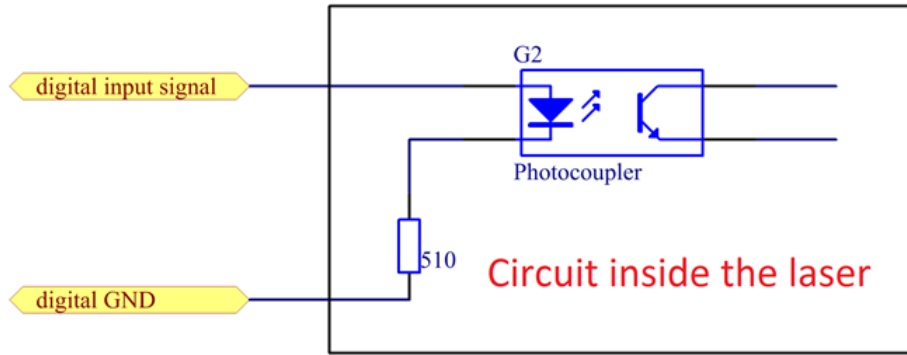

Figure 11 Schematic diagram of input signal interface circuit
- 5) Pin22 is the Enable signal. The Enable should achieve high state at least 10us before Pin2 and Pin3 changing. The Enable should achieve low state at least 10us after Pin2 and Pin3 changing. Figure 11 shows the adjustment process of laser duration control.